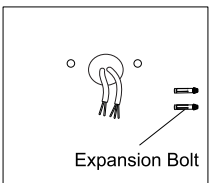

Figure 17
- Step 2: Knock the expansion bolts into the wall. (Figure 17)